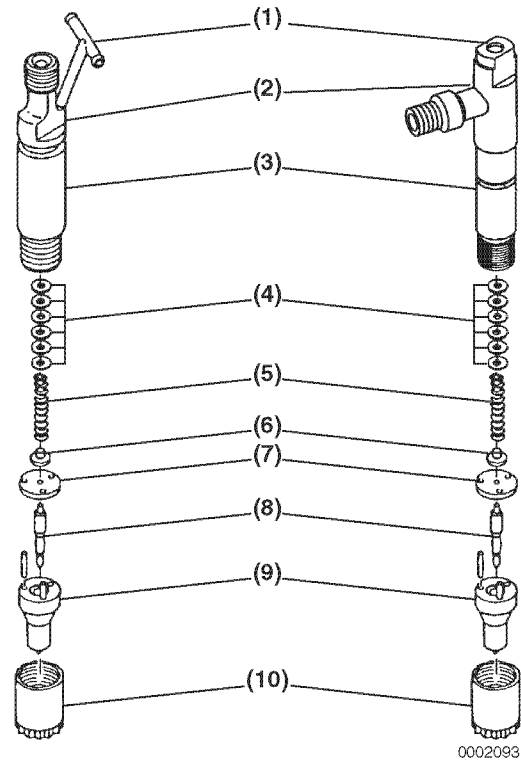

Figure 6-96
The fuel injectors open when pressure reaches a predetermined pressure threshold. They close when the pressure is reduced below that threshold. The pressure threshold can be adjusted by adding or removing shims (**Figure 6-96, (3)**).